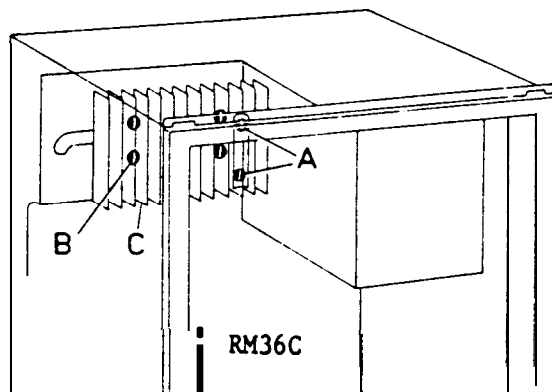
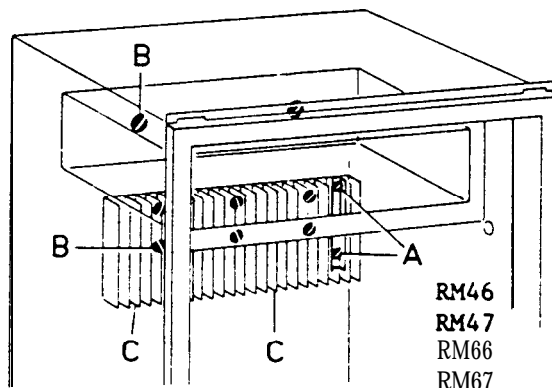

Fig. 41
Fig. 42
2. Remove the thermostat capillary tubes by loosening the two screws "A" on the evaporator fins (Fig. 41 and fig. 42).